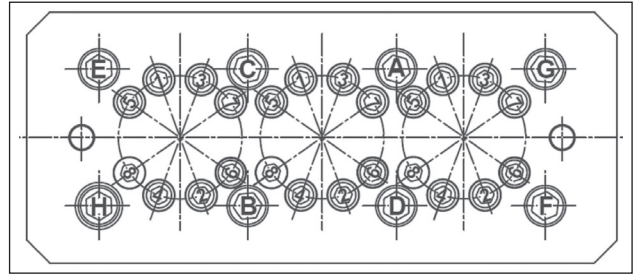

Fig. 50
- \*\* The head fixing screws must be tightened respecting the phases and order shown in the diagram in Fig. 50.
- \*\*\* The liner fixing screws must be tightened respecting the phases and order shown in the diagram in Fig. 50.